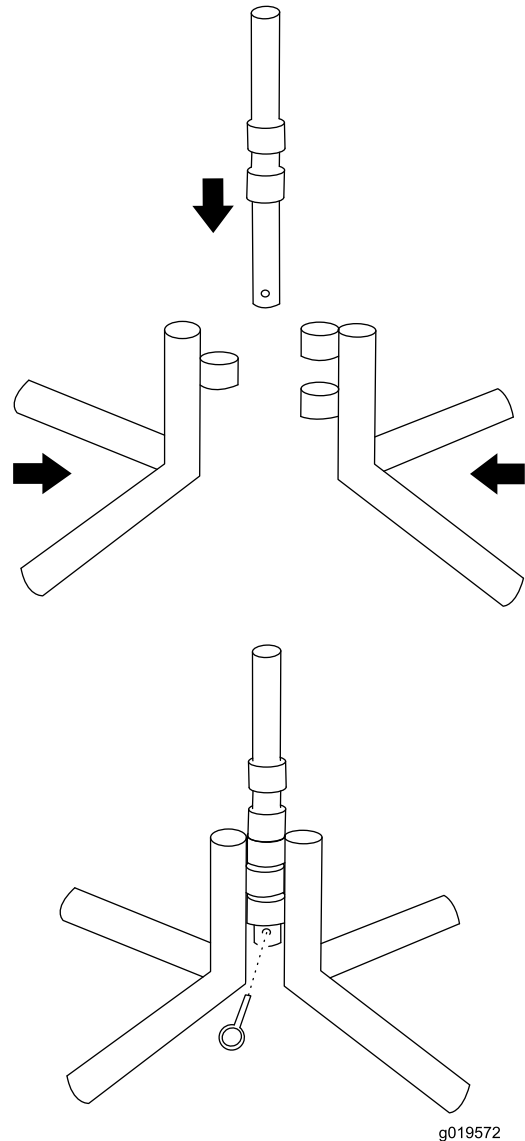

Figure 13
1. Place 2 halves of the support legs together, and insert pivot tube through the center of the legs (Figure 13).
2. Insert the locking pin through the bottom of the pivot tube (Figure 13).